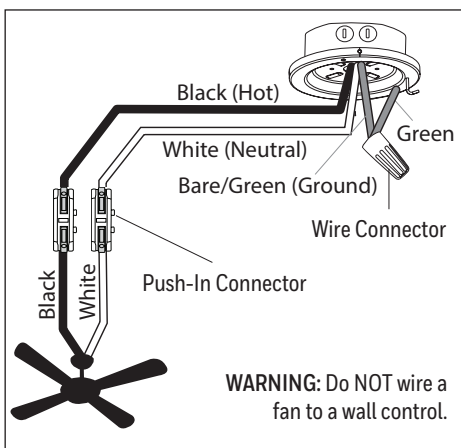

Figure 4.1
- Make the following wire connections according to the diagram and these steps (Figure 4.1):